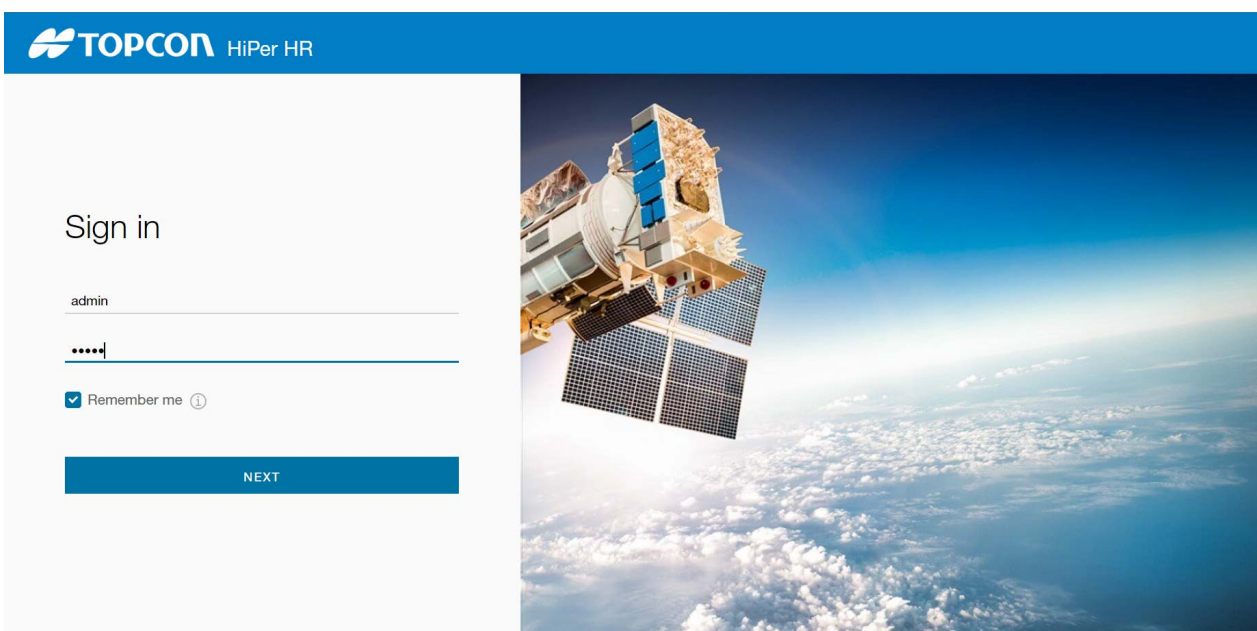

Figure 5-18: Main Page of the HiPer HR Web Interface
3. In the address or location bar of the Web browser, type the following address: `http://ipaddress`, where `ipaddress` is the IP address of the receiver for the connection type in use. The select **Enter**. The login page displays (Figure 5-18).